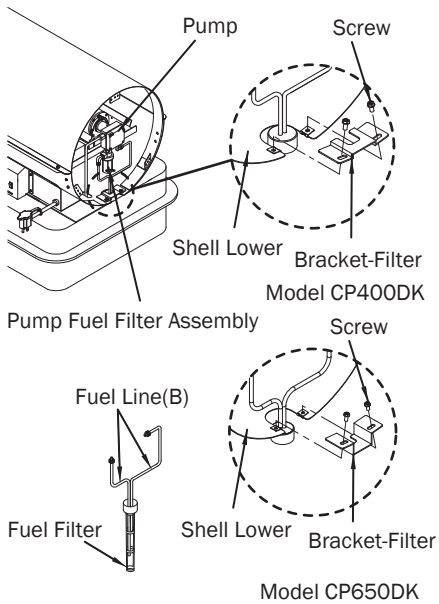

Figure 22 – Remove Tank Fuel Filter
- Remove fuel filter, gasket, magnet from filter bottom (See Figure 22).